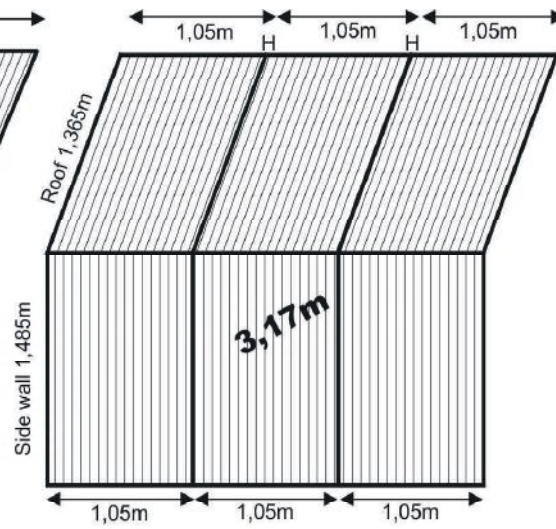

Fig. 21.2
3.17 m length: 1.05+1.05+1.05 (Fig. 21.2)